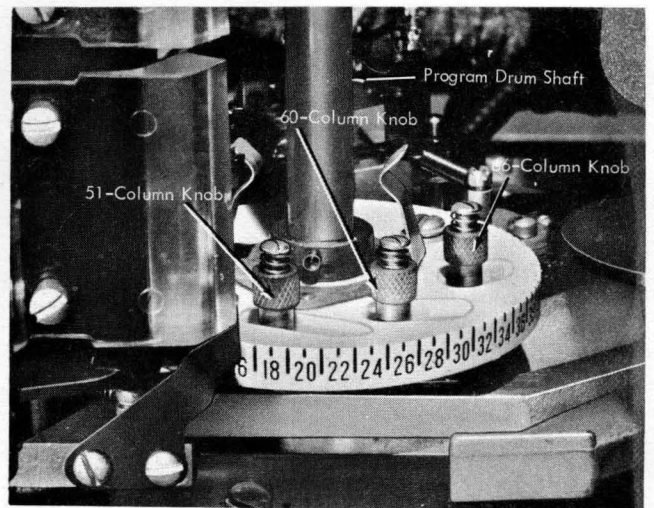

Figure 20. Program Cam Extension Knobs
4. The following settings are necessary whether or not a program drum is used. To set the program cam extension knobs, lift the program drum cover forward, turn the program control lever to raise the program drum starwheels, and lift the drum off its shaft (Figure 20). Space to column 16 on the column indicator and turn off the main line switch.